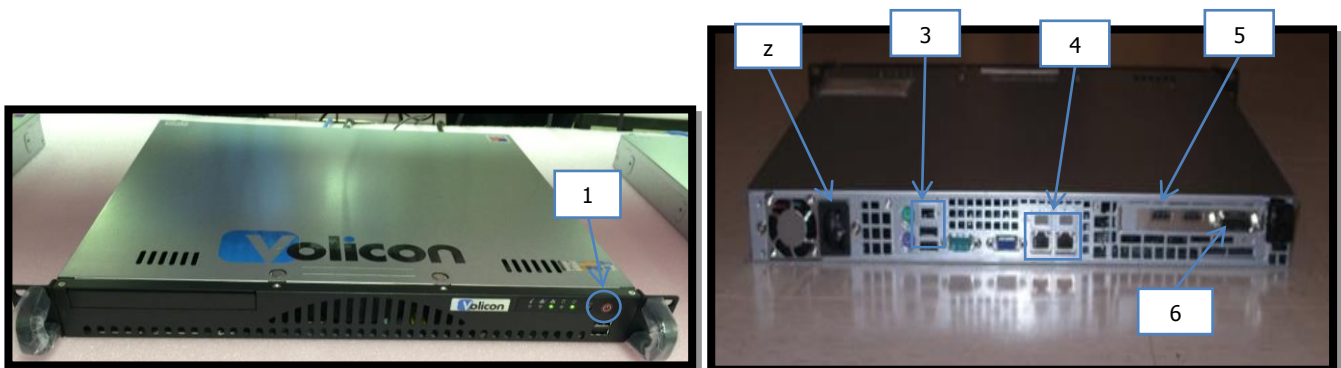

Figure 6.1. Volicon Scout Front and Rear View.
- a. Figure 6.1 shows the Volicon Scout front and rear views.